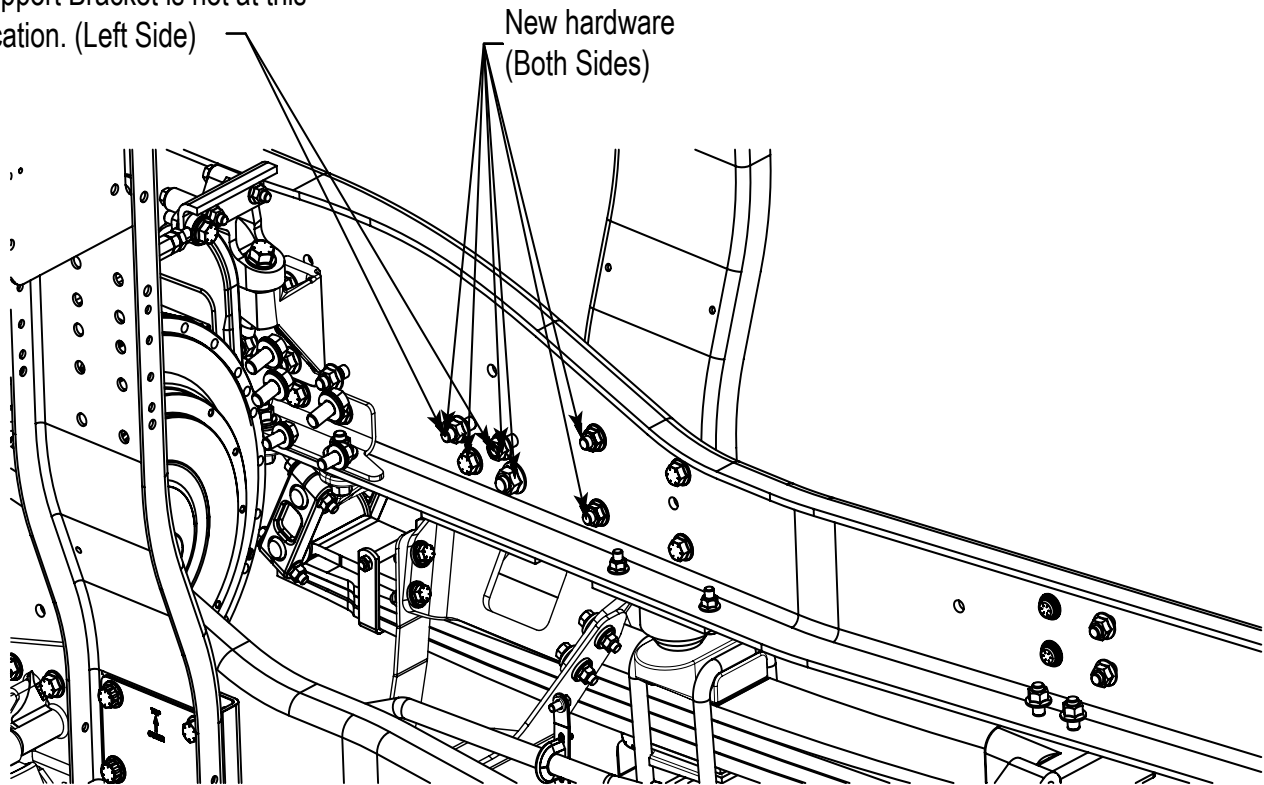

Figure 7
- Use 5/8" Flange Bolt X 2.50" (FE410162AW24) when the engine support bracket is not at this location (both sides). Install Shock / Crossmember Mounts (left hand S3730004-001 and right hand S3730002-002). Tighten to 200 lb. ft. of torque (Figure 7).